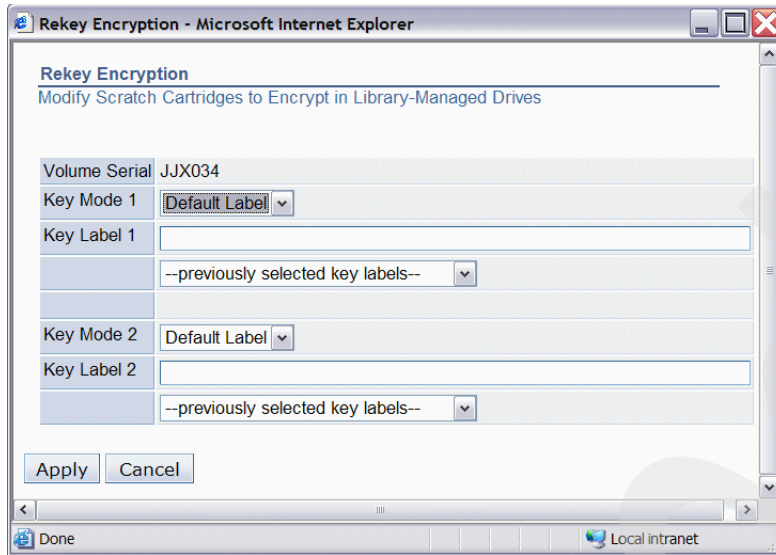

Figure 6-84 Rekey Encryption window
3. The Rekey Encryption window opens. Enter the key modes and labels you want to use to rekey the cartridge, and click **Apply** (Figure 6-84 on page 194).